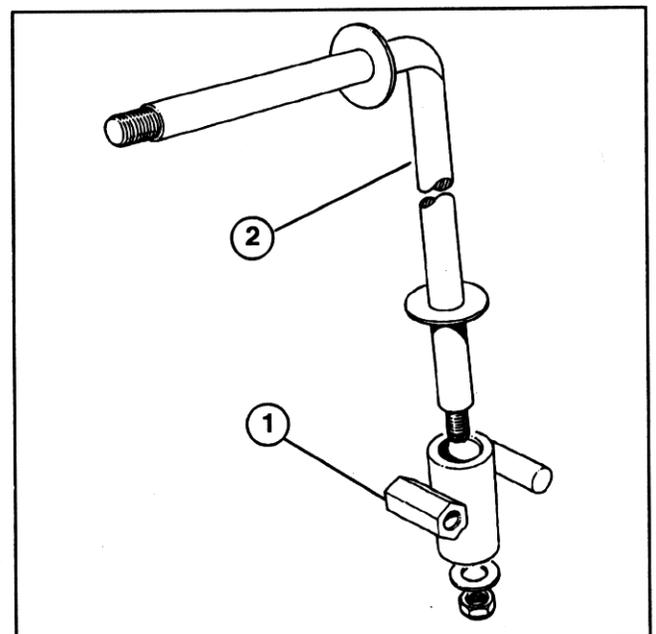

Figure 8
1. Secure lift bail housing to lift bail with a thrust washer and 3/4-16 locknut. Position lift bail as shown in Figure 8.